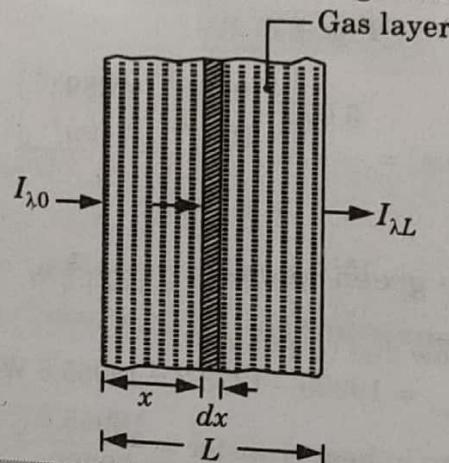

Fig. 4.19.1. Monochromatic radiation passing through an absorbing gas.
- Consider a beam of monochromatic radiation with intensity $I_{\lambda 0}$ entering a gas layer of thickness L as shown in Fig. 4.19.1.